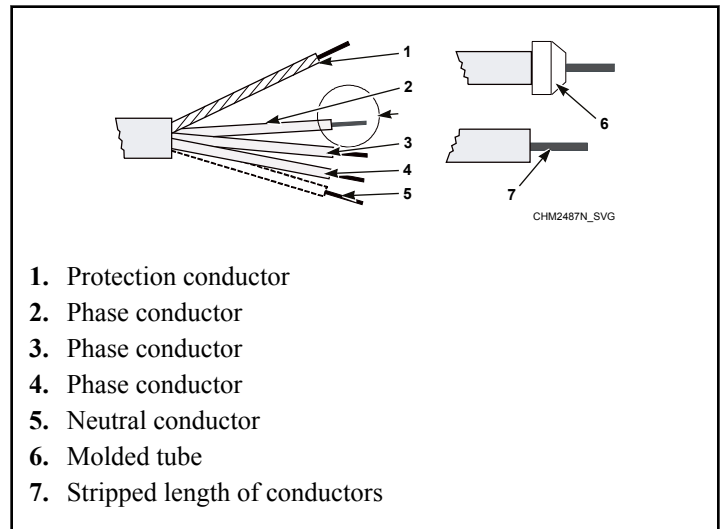

Figure 21
2. Strip the conductor ends. Refer to *Figure 21* . The protection conductor must be longer so it can be routed to the machine without tension.